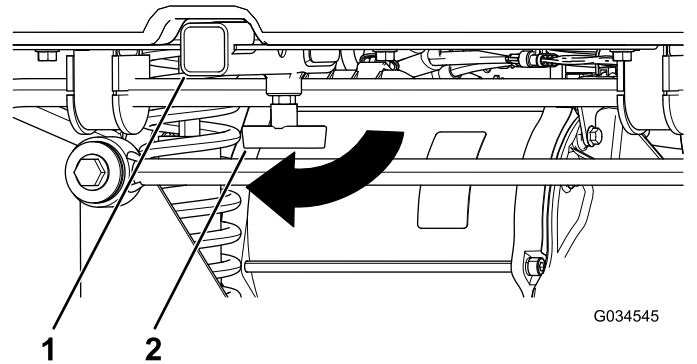

Figure 19
1. Loosen the “T” handle by rotating it clockwise (Figure 19).
2. Insert your accessory into the receiver until the holes align (Figure 19).